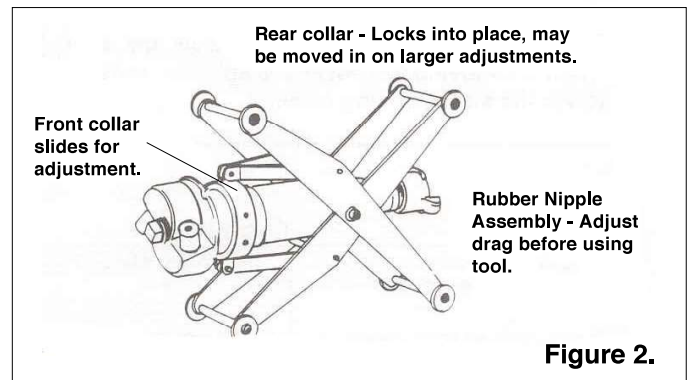

Figure 2.
2.4 Small Centering Carriage (for 8” to 17” I.D. pipe): The small centering carriage (Figure 2) fits on the Spin-Blast tool as a single assembly and adjusts to the pipe I.D. by a scissor action.